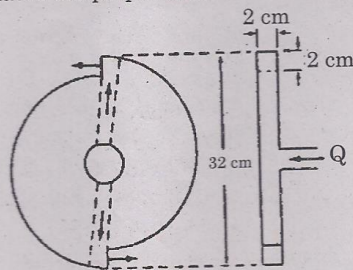

Fig. 2.
- (ii) According to Torricelli's theorem, the velocity of a fluid draining from a hole in a tank is $V \cong (2gh)^{1/2}$, where h is the depth of water above the hole. Let the hole have area A_o and the cylindrical tank have bottom area A_b . Derive a formula for the time to drain the tank from an initial depth h_o . (8)
- (b) (i) A simple turbomachine is constructed from a disk with two internal ducts which exit tangentially through square holes, as in the Fig. 2. Water at 20°C enters the disk at the center, as shown. The disk must drive, at 250 rev/min, a small device whose retarding torque is 1.5 Nm. What is the proper mass flow of water, in kg/s? (8)